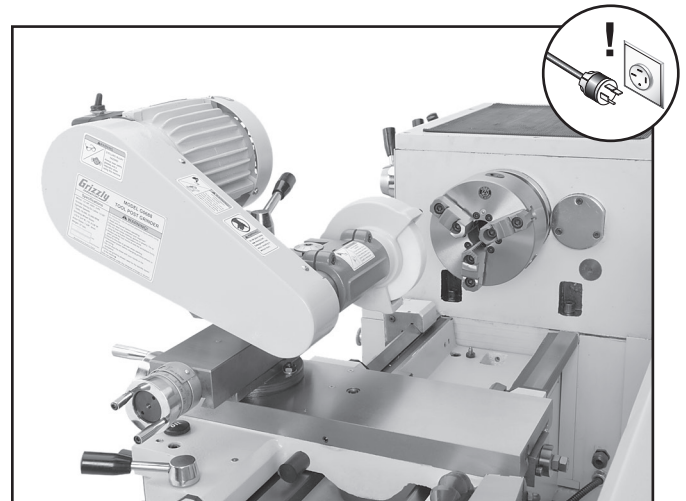

Figure 6. Grinder installed on the lathe.
5. Place the grinder over the tool post stud and position it so that the grinding wheel is facing the lathe's centerline, as shown in **Figure 6**.